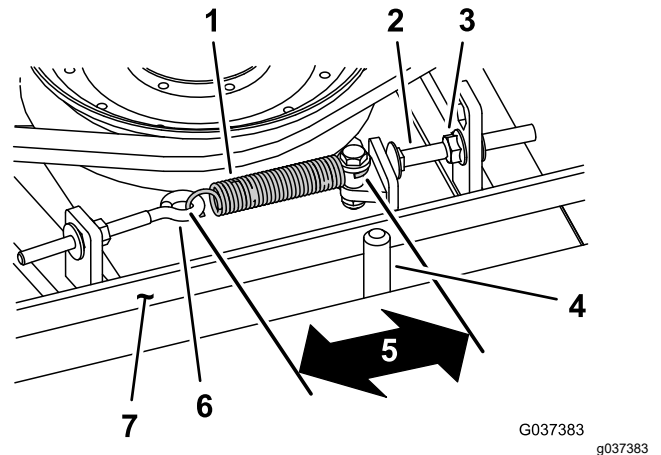

Figure 80
When properly tensioned, the inside measurement of the extension spring (hook to hook) should be approximately 8.3 to 9.5 cm (3-1/4 to 3-3/4 inches). Once the correct spring tension is attained, adjust the stop bolt (carriage bolt) until there is approximately 2 to 5 mm (0.065 to 0.185 inch) clearance between the head of the bolt and the idler arm (Figure 80).
Note: Ensure that the belt is positioned on the spring side of the belt guide (Figure 80).
- Loosen the eye bolt allowing the removal of the extension spring (Figure 80).
- Loosen the flange nut securing the stop bolt to the mounting tab and move the idler pulley away from the belt to release the belt tension (Figure 80).
- Connect the extension spring (Figure 80) to the eye bolt and tension the belt as follows: